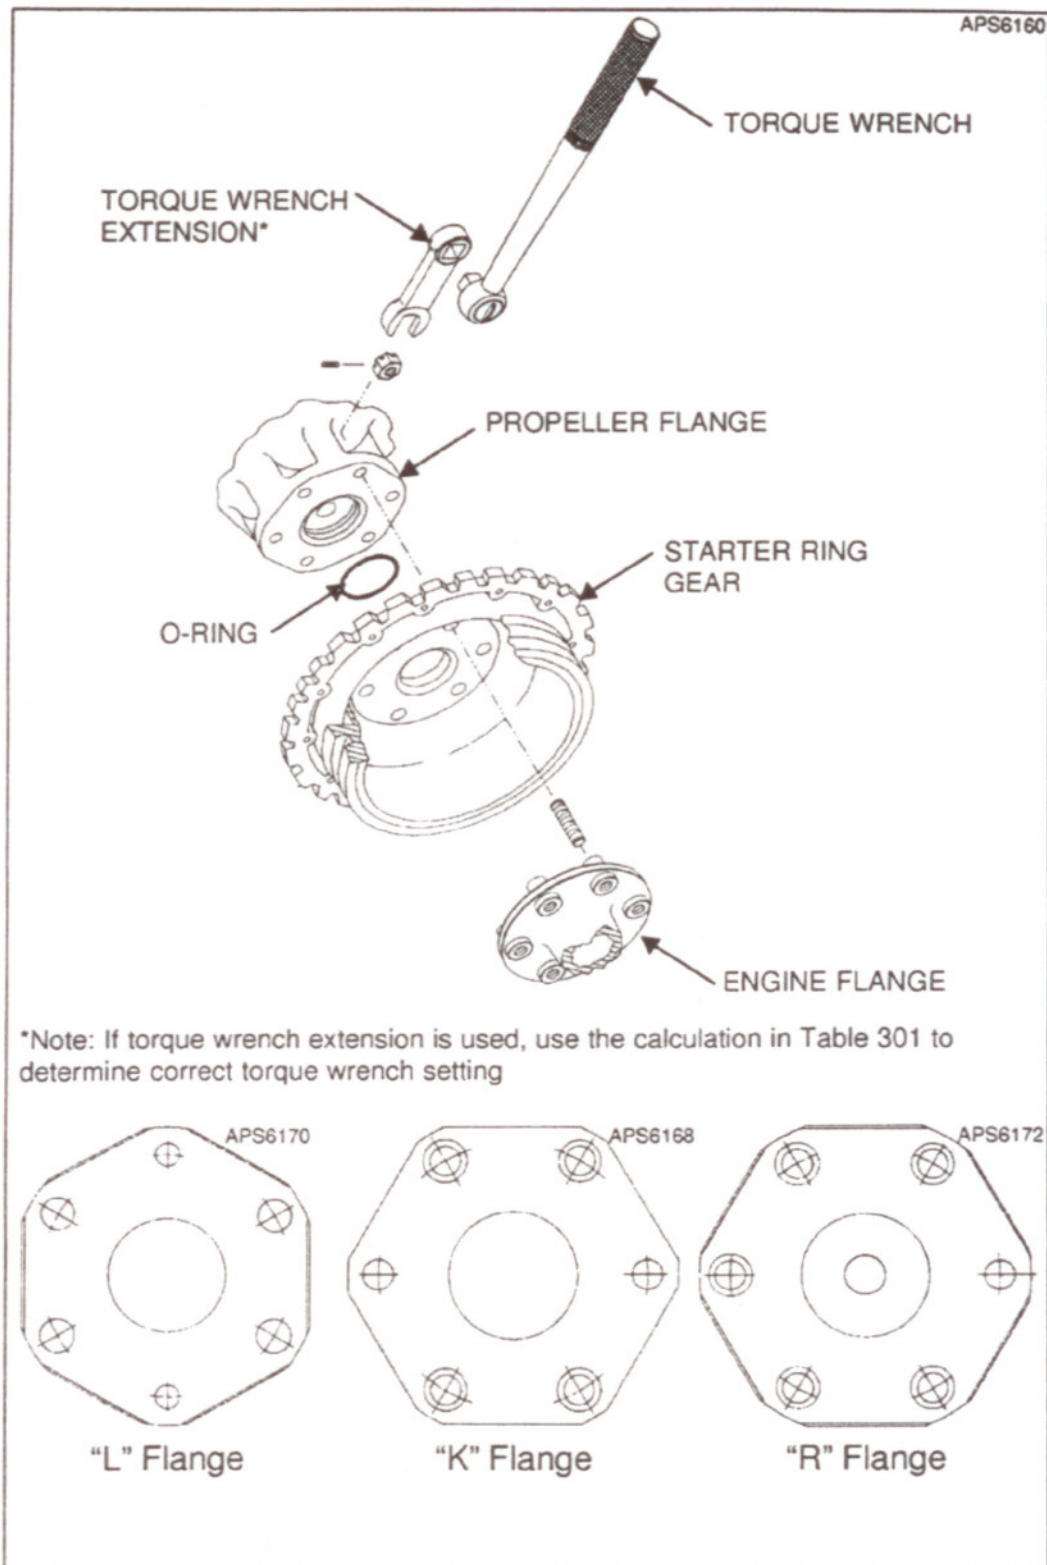

Figure 305 - "L," "K," and "R" Flange Propeller Mounting
An "L" flange is an SAE No. 2 flange with six $\frac{7}{16}$ inch studs configured in a 4.75 inch circle. Four drive bushings transfer torque and index the propeller with respect to the engine crankshaft. The bushings are located on the engine flange and fit into openings on the propeller flange. See Figure 305. The bushing locations used on a particular propeller installation are indicated in the propeller model stamped on the hub. Refer to Aluminum Hub Propeller Model Identification in the Description and Operation Chapter of this manual.
- (1) Perform the appropriate steps under Spinner Pre-Installation within this chapter.
- (2) Clean the engine flange and propeller flange with Quick Dry Stoddard Solvent or MEK.
- (3) See Figure 305. Install the O-ring in the O-ring groove in the rear of the hub. See Table 302 for the proper O-ring to be installed.
- (4) Install the propeller on the engine flange. Align the engine flange bushings with the corresponding holes in the propeller flange.
A "K" or "R" flange is an SAE No. 2 flange that has six 1/2 inch studs configured in a 4.75 inch circle. Four ("K" flange) or five ("R" flange) drive bushings transfer torque and index the propeller with respect to the engine crankshaft. The bushings are located on the engine flange and fit into counterbored holes on the propeller flange. See Figure 305. The bushing locations used on a particular propeller installation are indicated in the propeller model stamped on the hub. Refer to Aluminum Hub Propeller Model Identification in the Description and Operation chapter of this manual.